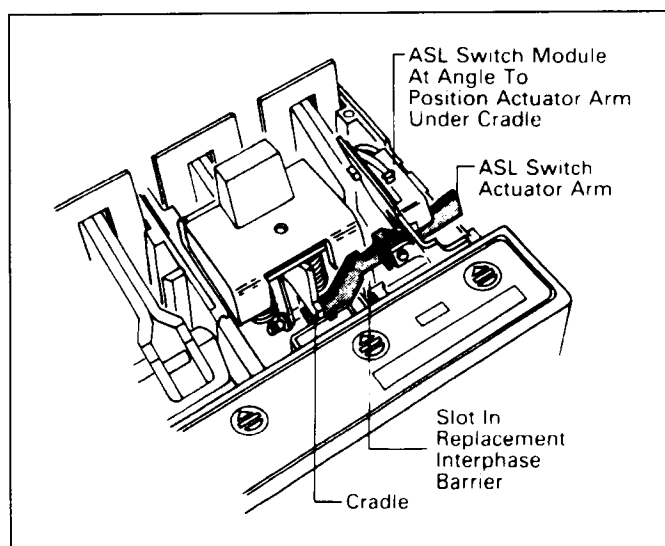

Fig. 2-5. Alarm (Signal)/Lockout Switch Installation
- a. Put tip of actuator arm through slot in replacement interphase barrier and under cradle. (See Fig. 2-5.)